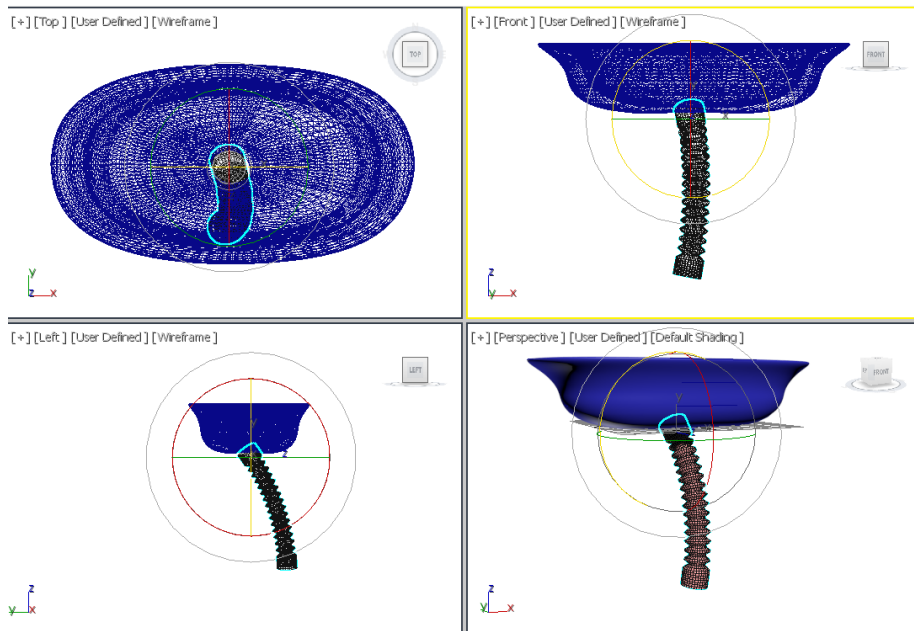

Figure 15-70 The duct geometry rotated and aligned in viewports
14. Rotate *duct* in the Top viewport and align it in viewports, as shown in Figure 15-70.